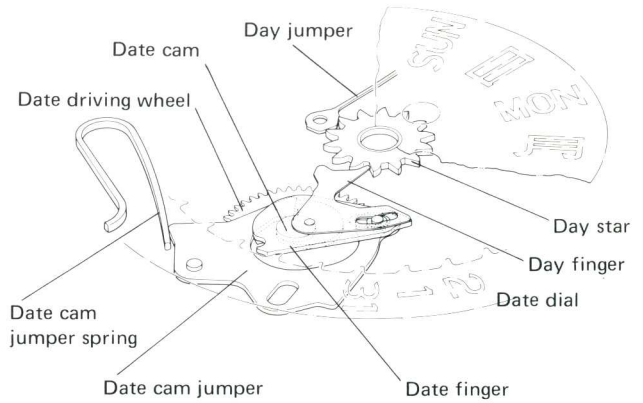

Fig. 1
Disassemble the watch according to the procedures in Figs. 1 to 65. Assemble the watch according to the procedures in Figs. 65 to 1.
6)-1 Instant day and date setting device (Figs. 1 and 2)